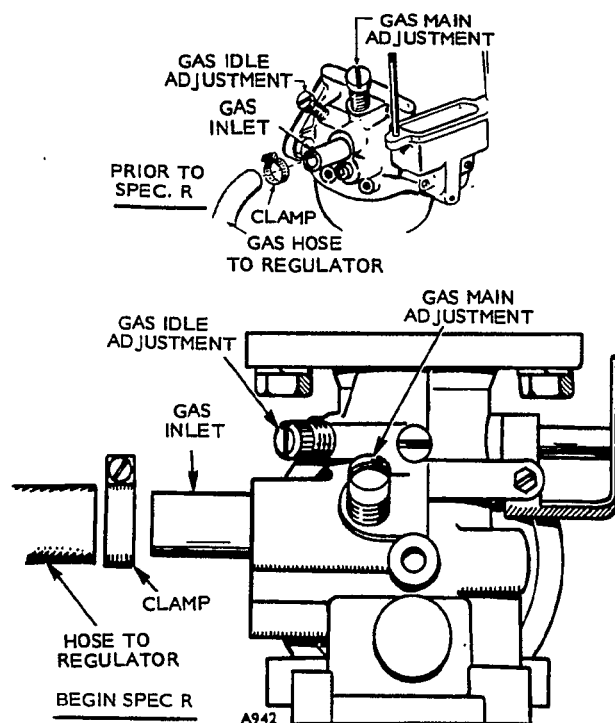
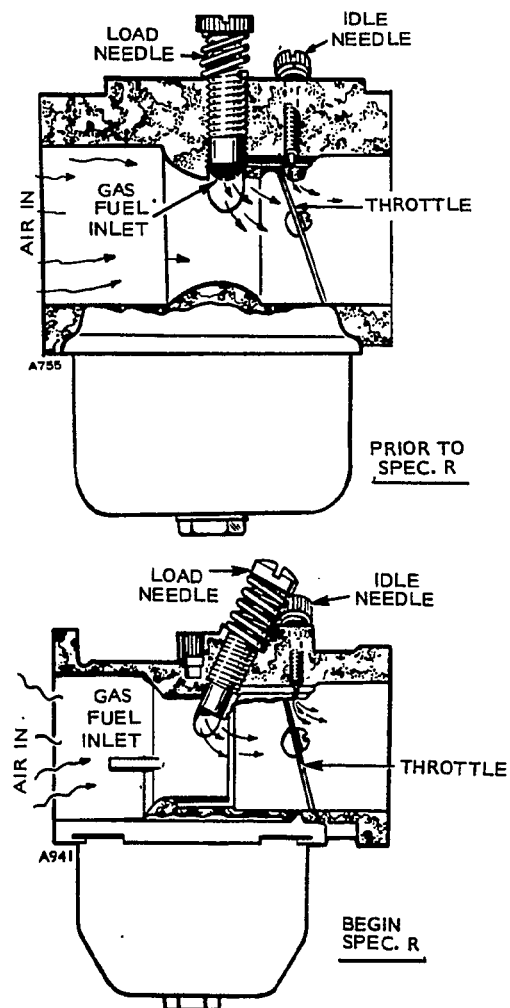

FIGURE 26. GASEOUS FUEL CARBURETOR
FIGURE 27. GASEOUS FUEL ADJUSTMENTS
The gaseous fuel carburetor (Figure 26) is similar to the gasoline carburetor in shape, but it differs in operation. Gaseous carburetors contain two major sections, the idle circuit and the load circuit. Fuel delivery depends on demand created on fuel inlet line, Figure 27. A small vacuum on inlet line opens fuel regulator, delivering fuel. For no-load operation, idle adjustment controls quantity of fuel allowed through the idle port. The throttle is almost closed, so increased vacuum on engine side of carburetor draws fuel through the idle passage. When load increases, the flow of air through carburetor draws fuel from main fuel port located at venturi of the carburetor.
3. Remove float bowl (and main adjustment screw begin Spec R), Figure 27.